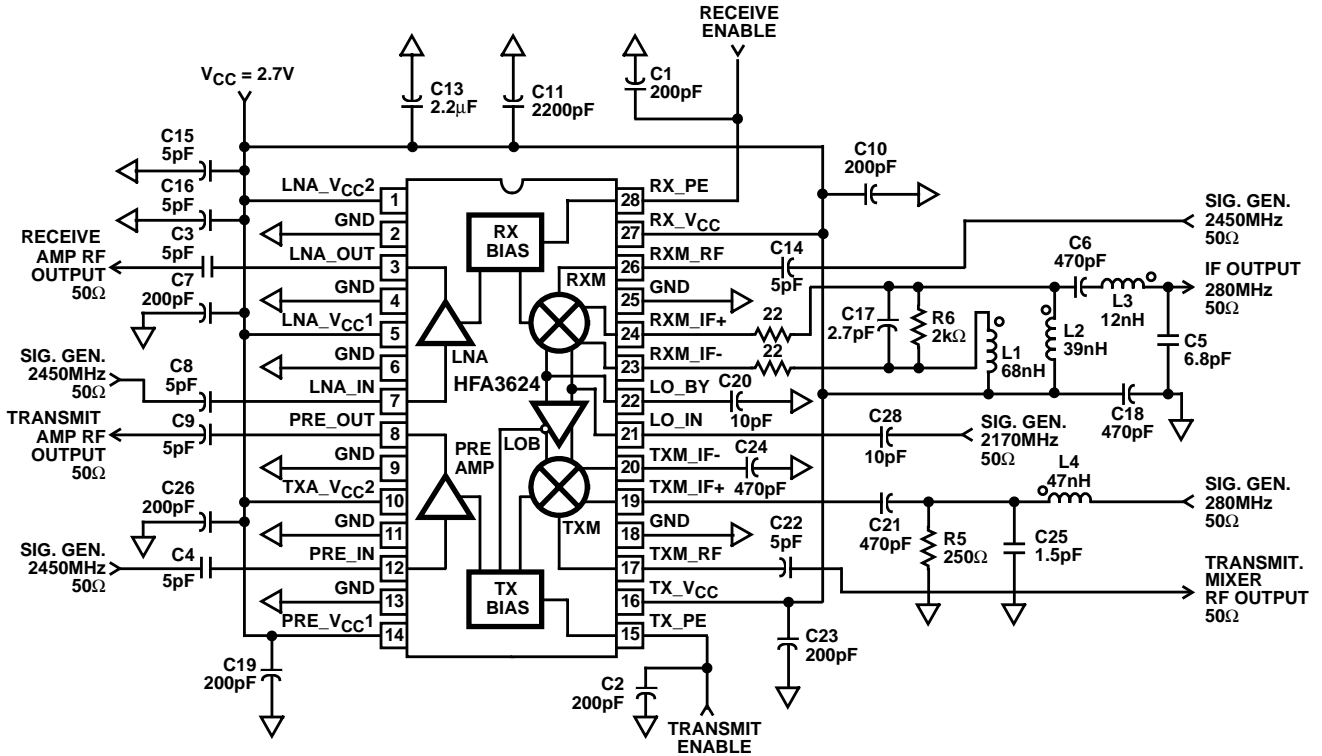

FIGURE 5. OPTIMIZED LAB EVALUATION CIRCUIT
- See Figure 5 Test Circuit for 50 Ω IF matching network component values.
- Transmit mixer measured with Impedance Transform Network 250 Ω at device to 50 Ω at the source. Refer to Figure 5, pin 19.
- Implied limit, production measurement uses 50 Ω termination at pin 19 ($R_{S_{IF}} = 50\Omega$). Typical transmit conversion gain increase of 5.5dB with application circuit Figure 5 ($R_{S_{IF}} = 250\Omega$).
- Enable/Disable Time Specifications are tested with the external component values shown in the Figure 5 Test Circuit, with an IF frequency of 280MHz. Specifically the AC coupling capacitors on the TXM_IF+ and TXM_IF- pins are biased up to operating voltage from a fixed internal current source at power up. Increasing these AC coupling capacitors above 1000pF will slow Enable Time proportionately.
NOTE: Transmit mixer measured with Impedance Transform Network 250Ω at device to 50Ω at the source. Refer to Figure 5, pin 19.